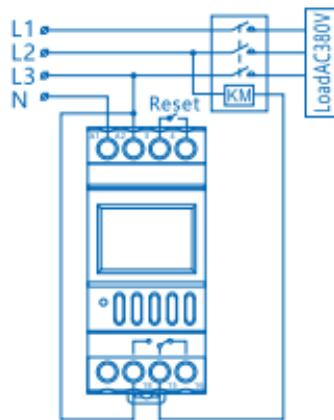

Figure 5 Wiring diagram of 3-phase control (contactor coil AC380V)
b) Control contactor coil voltage: AC380V 50Hz/60Hz, see Figure 5 for wiring method.